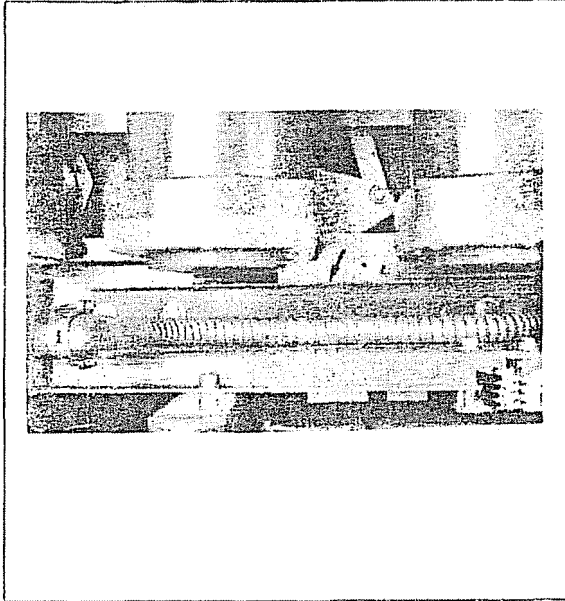

Figure 23
2. Remove the support channel below the pole units by removing the seven mounting screws. See Figure 23.